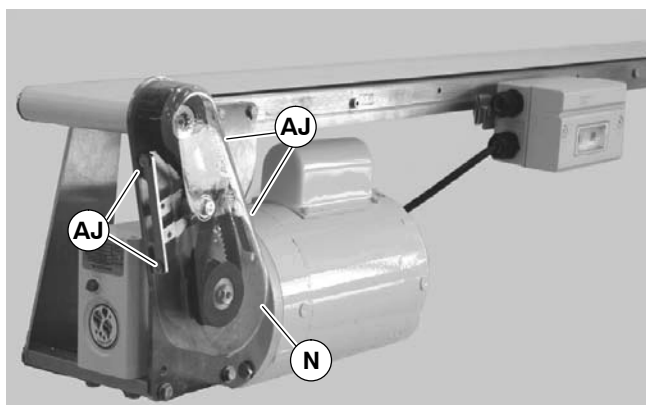

Figure 24
1. Loosen four (4) screws (AJ of Figure 24) and remove cover (N).
NOTE: Do not over-tighten screws (AJ of Figure 24).
6. Attach cover (N of Figure 24) and tighten four (4) screws (AJ) to 35 in-lb (4 Nm).